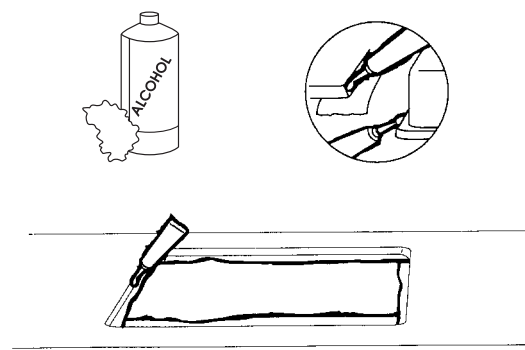

Figure 8
- Form a tape dam underneath the cutout. Do not extend the tape more than $\frac{1}{2}$ " (13 mm) into the opening (see Figure 8).
- Apply a thick layer of adhesive to the bowl and to the edge of the cutout (see Figure 8).